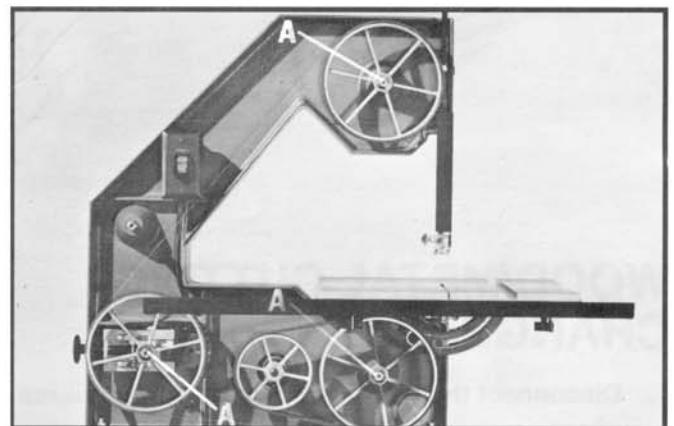

Fig. 30
Lubricate the wheel bearings by applying a light machine oil in the shaft holes (A) Fig. 30, each time saw blade is replaced or each time front cover is removed.